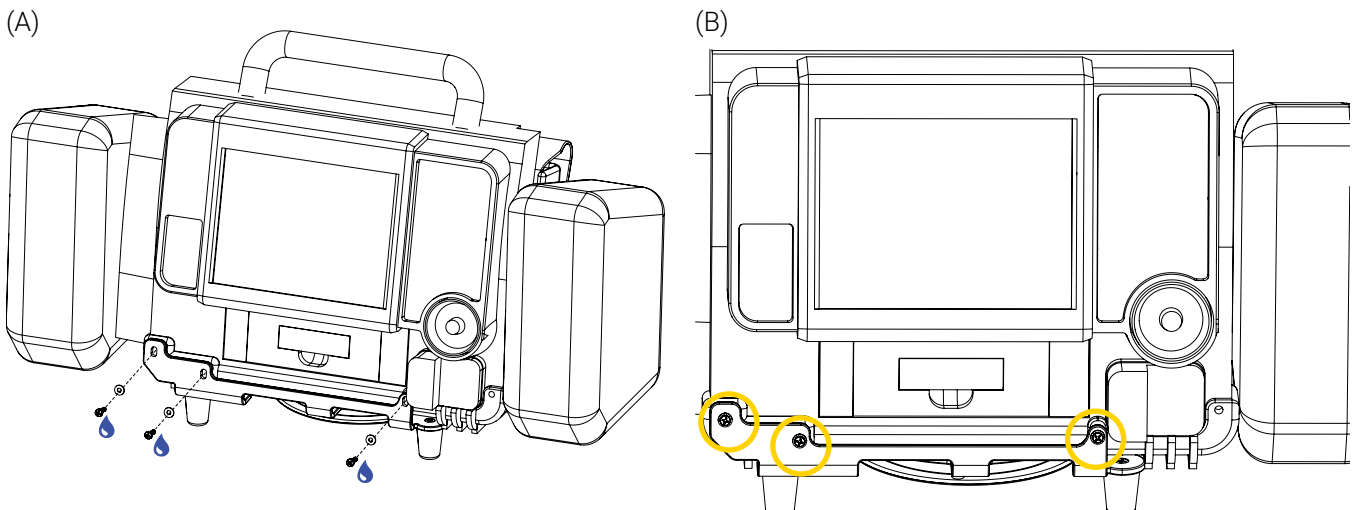

Figure 6: Installing the medical device in the Bracket Pro Serie 35 - HD (2 of 2)
7. Secure the bracket at the front of the medical device using three (3) pan head screws 6-32 x 5/8 in., thread lock adhesive, three (3) flat washers and a Phillips screwdriver #2 (Figure 6).